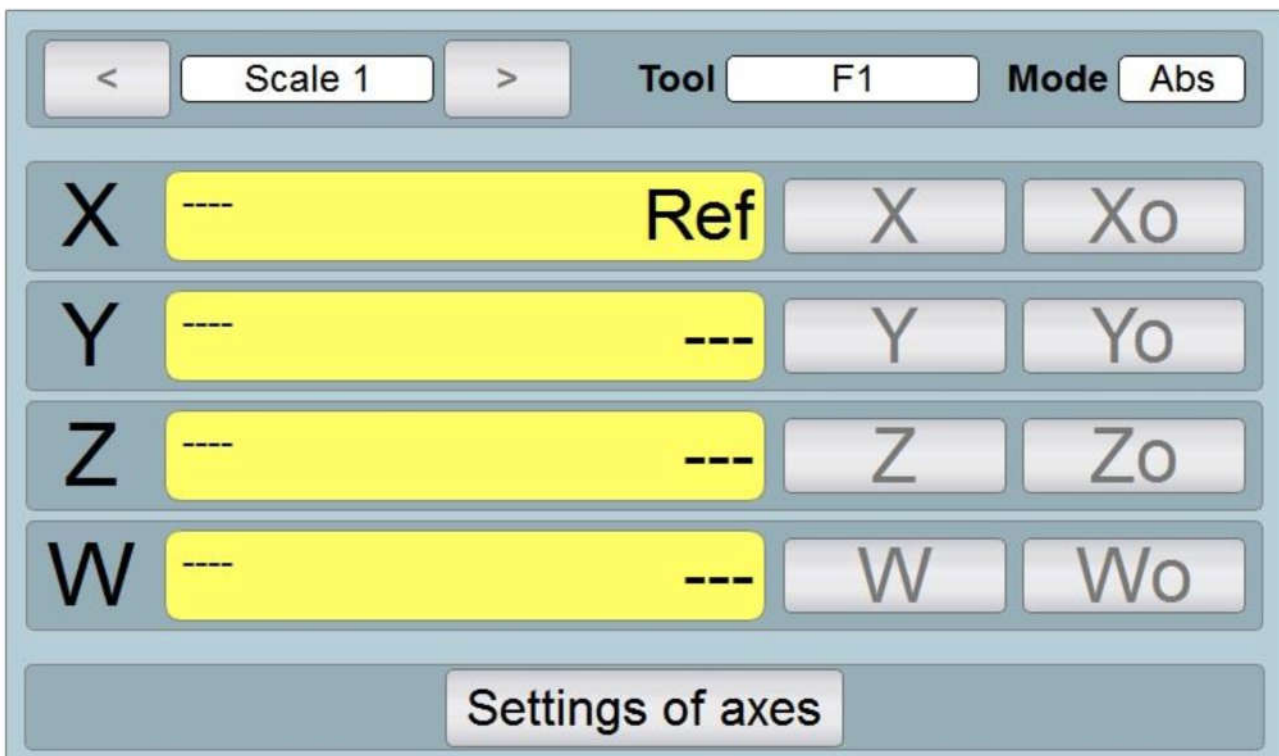

Fig. 35: Moving to the reference point
- ⑩ Linear and angle axis mode.
- ⑩ The option for moving to the reference point after the program start.
- ⑩ If I choose I want to move to reference point on the defined axis, after the program start deactivate all buttons except for the axes setting, and the title „Ref“ appears on the respective axis (see fig. 35: Moving to the reference point).
- ⑩ The button for axes setting is here because it can be switched off on the defined axis in case of a problem, and the readout is commonly started after the program restart.
- ⑩ As soon as the encoder moves to the reference point, „Ok“ appears on the defined axis.
- ⑩ If other axis do not include the setting of the reference point, the program starts and displays the values from the sensors.
- ⑩ If the movement to reference points is set on other axis, it is displayed on another axis in the order title „Ref“ and repeat the procedure until all reference points are reached.